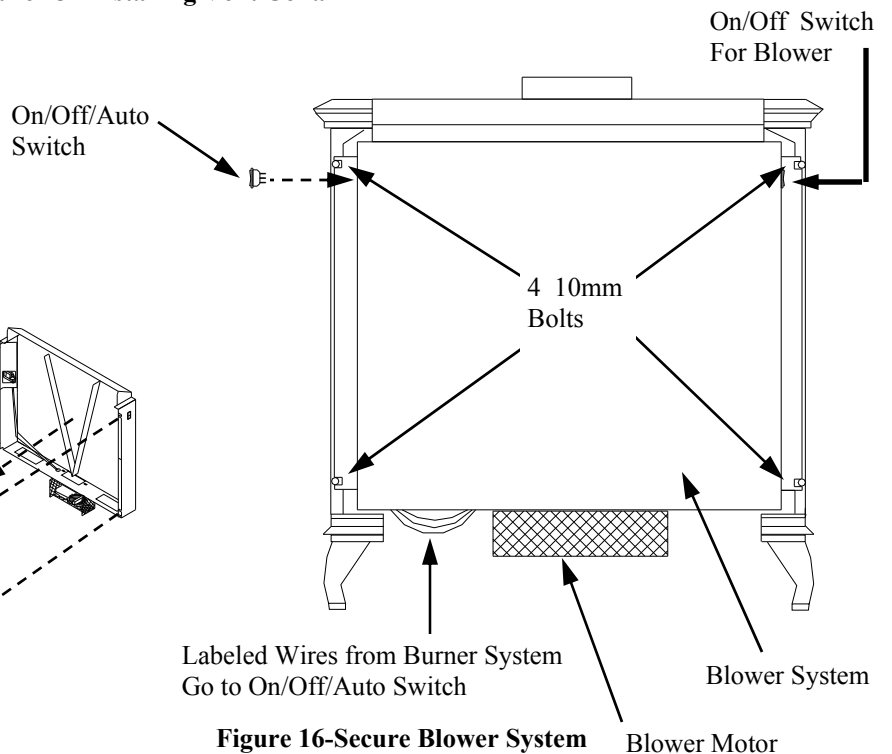

Figure 16-Secure Blower System
7. Find the on/off/auto switch and wires attached to the burner system. You will need to unplug the wires from the switch and place the switch in the slot provided on the side of the blower system (see figure 16 and figures 43,44 on pages 30,31) .
8. Next push the wires through the 5/8" round hole located in the bottom of the blower system and reconnect the wires to the switch using the labels on the wires to insure the wires are reconnected to the correct terminals (see wiring diagram pages 30,31 figures 43,44)(see figure 16).
9. Secure the blower system to the rear of the cast stove body with the 4 10mm bolts provided with the stove (see figure 16).